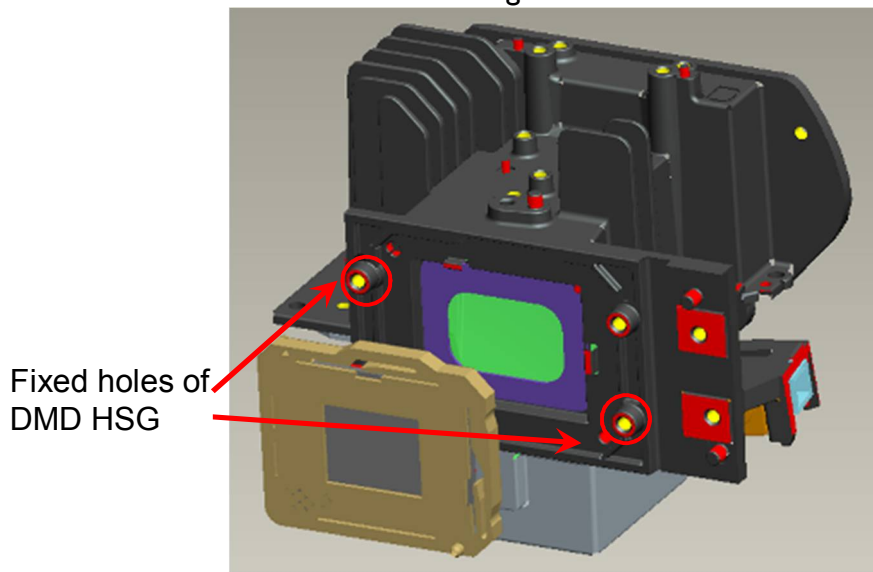
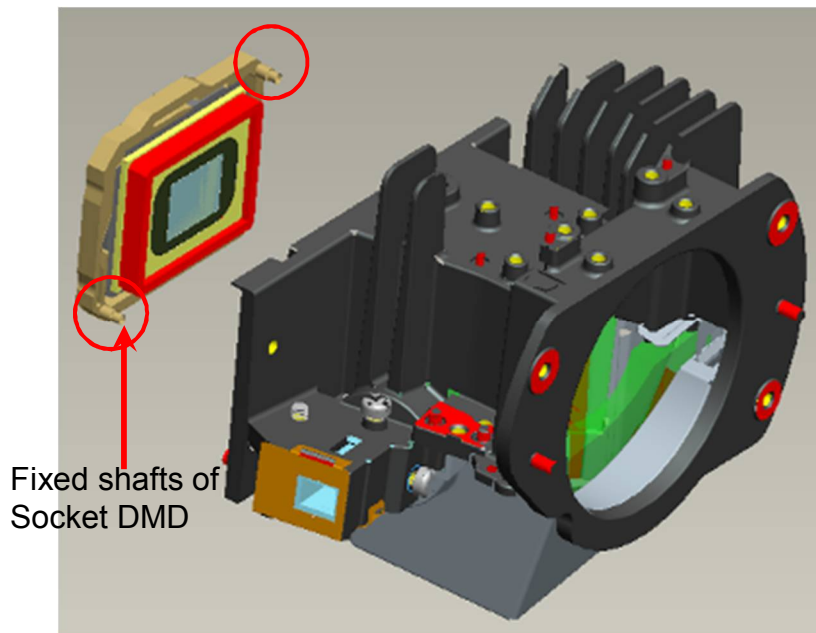

Fig. 5-2
Fig. 5-3
- B. Assemble Socket DMD Module to "HSG DMD" (Fig. 5-2, Fig.5-3).